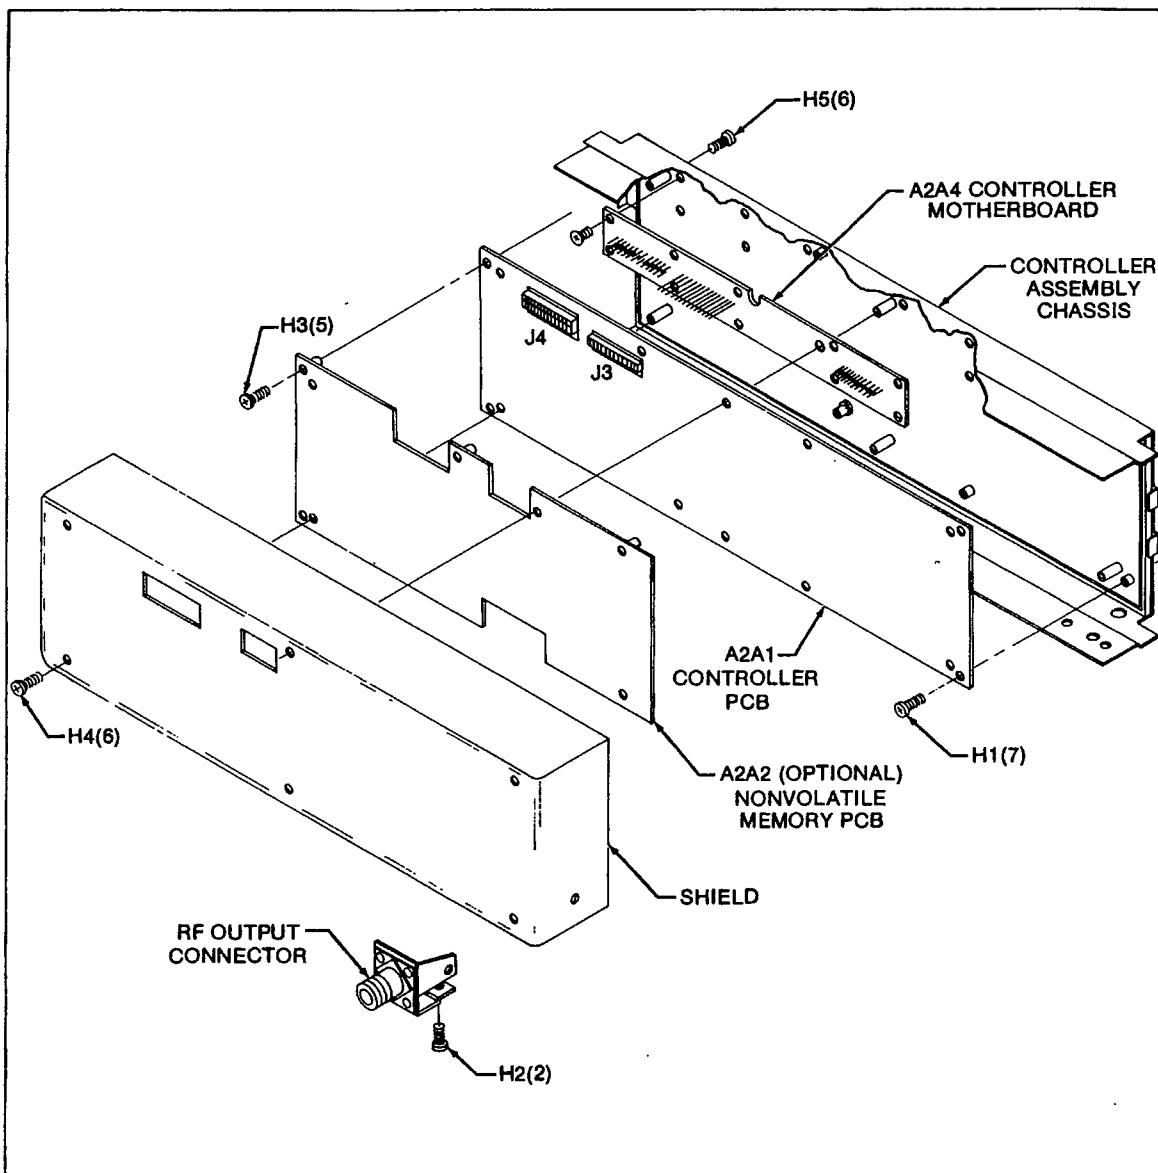

Figure 3-16. Controller Assembly
3. Disconnect the cables from J3 and J4 on the Controller Assembly (Figure 3-16).
4. Remove the RF OUTPUT connector from Controller Chassis Assembly (Figure 3-16).
5. Remove the six screws (H4) from the shield and lift the shield away from Controller Assembly (Figure 3-16).
6. If the unit contains the accessory A2A2 Nonvolatile Memory PCB, remove the five screws (H3) that secure the A2A2 Nonvolatile Memory PCB and remove the circuit board (Figure 3-16).
7. Remove the seven screws (H1) from A2A1 Controller PCB and remove the circuit board from the Controller Chassis (Figure 3-16).
8. Remove the six screws (H5) from the A2A4 Controller Motherboard and remove the motherboard from the Controller Chassis Assembly (Figure 3-16).
2. Insert the A2A1 Controller PCB into the Controller Chassis Assembly and secure it using the seven screws (H1) removed in the disassembly procedure (Figure 3-16).
3. If the unit is supplied with the optional accessory A2A2 Nonvolatile Memory PCB, install the A2A2 PCB in place, and secure it using the five screws (H3) removed in the disassembly procedure (Figure 3-16).
4. Install the shield and secure it using the six screws (H4) removed in the disassembly procedure (Figure 3-16).
5. Install the RF OUTPUT CONNECTOR to the Controller Assembly Chassis and secure it using the two screws (H2) (Figure 3-16) removed in the disassembly procedure (Figure 3-9).